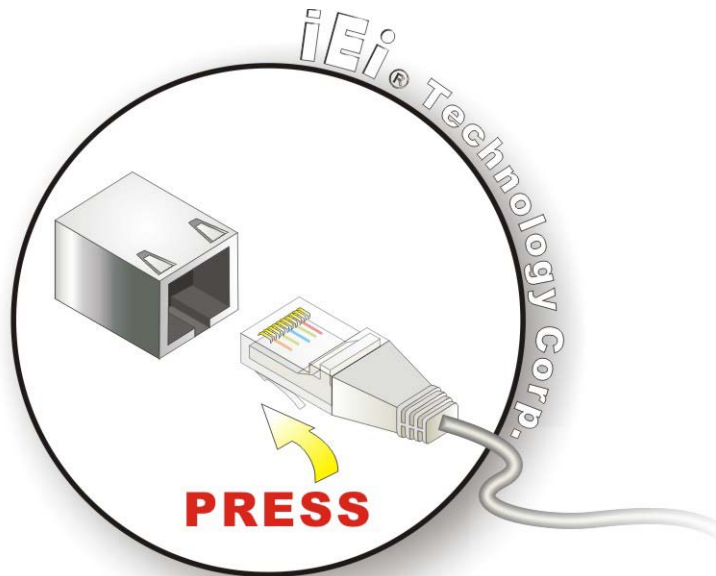

Figure 4-11: LAN Connection
Step 2: Align the connectors. Align the RJ-45 connector on the LAN cable with one of the RJ-45 connectors on the KINO-AQ870. See **Figure 4-11**.